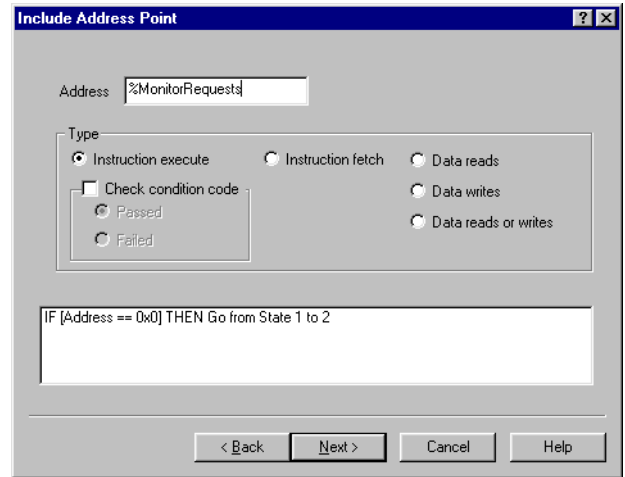

Figure 8-37 Include Address Point dialog box
4. Click on **Next>**. The Include Address Point dialog box shown in Figure 8-37 on page 8-39 is displayed.